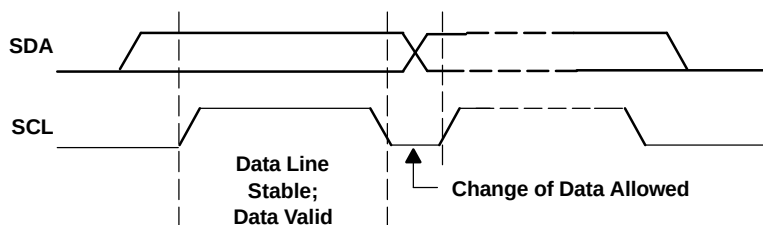
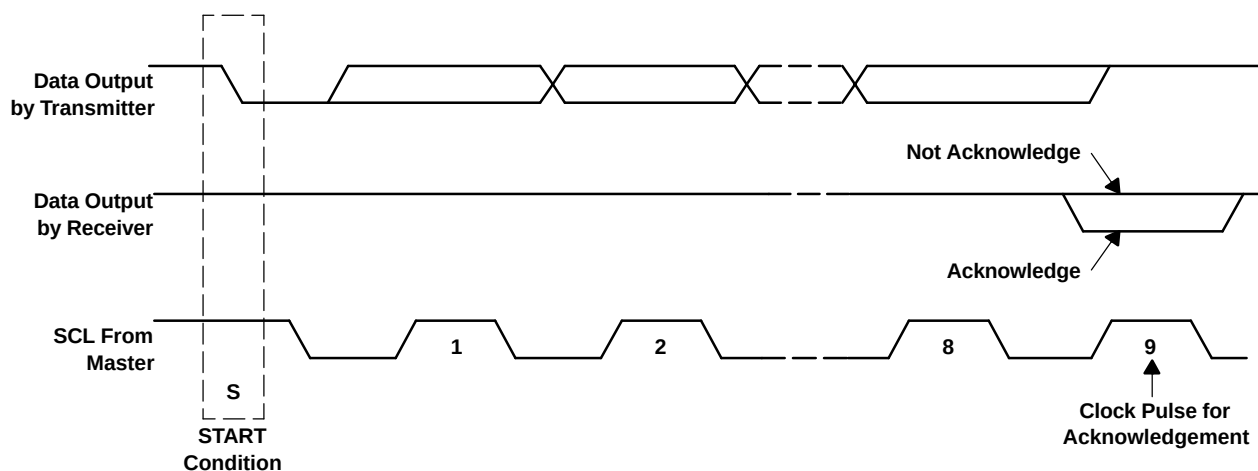

Figure 48. Bit Transfer on the I²C Bus
Figure 49. Acknowledge on the I²C Bus
- The master then generates the SCL pulses, and transmits the 7-bit address and the *read/write direction bit* $R/\overline{W}$ on the SDA line. During all transmissions, the master ensures that data is *valid*. A *valid data condition* requires the SDA line to be stable during the entire high period of the clock pulse (see Figure 48). All devices recognize the address sent by the master and compare it to their internal fixed addresses. Only the slave device with a matching address generates an *acknowledge* (see Figure 49) by pulling the SDA line low during the entire high period of the 9th SCL cycle. Upon detecting this acknowledge, the master knows that communication link with a slave has been established.